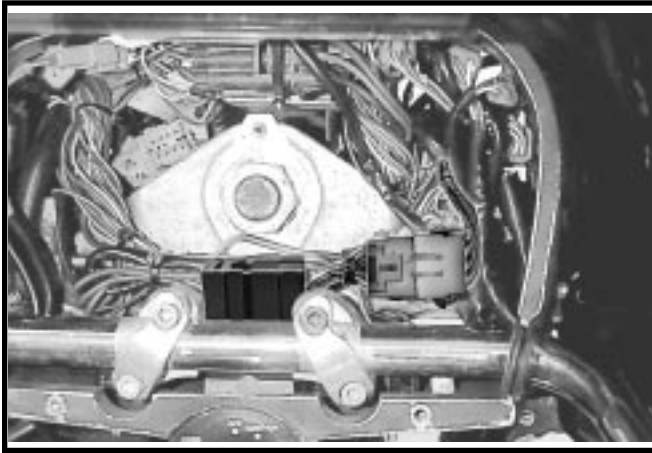

Figure 7
15. Position harness on triple clamp. Loop harness to the left and then route forward and down in front of right side triple clamp. Loop harness back up. Attach relay at main wire harness below 12-pin connector. Fasten in position with tie wraps. See Figure 7.